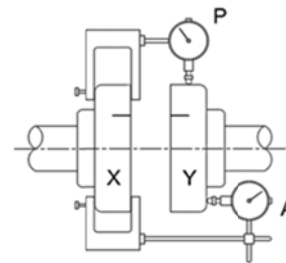

Fig. 10 Dial Indicator
To check angular alignment, mount dial indicator (A) to the coupling half (X), and position the dial indicators button on the face of the opposite coupling half (Y). Scribe index lines on both coupling hubs as shown in Fig. 10. Set the dial to zero, rotate both coupling halves together, so that the index lines match; ensuring that the indicator button always indicates off the same spot. Check the coupler manufacturer's guideline for acceptable alignment tolerances.
To check parallel alignment, mount dial indicator (P) to the coupling half (X), and position the dial indicators button on the outside diameter of the opposite coupling half (Y), (see Fig. 10). Set the dial to zero, rotate both coupling halves together, so that the index lines match; ensuring that the indicator button always indicates off the same spot. Check the coupler manufacturer's guideline for acceptable alignment tolerances.